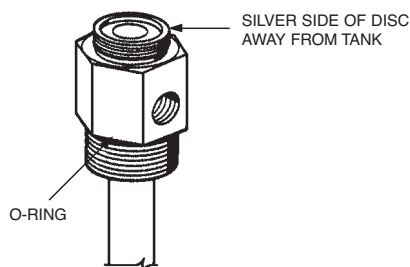

FIGURE 3
12. Examine threads on each tank adaptor and tank collar for nicks, burrs, or cross-threading. Clean and coat O-ring with a good grade of extreme temperature grease. See Figure 3. Remove 1/4 in. vent plug and clean and inspect for free movement and corrosion (replace if necessary). Reinstall vent plug. Make certain bursting disc is in place and silver side is away from tank. Clean seating surface and return adaptor/tube assembly to each tank. Tighten securely.